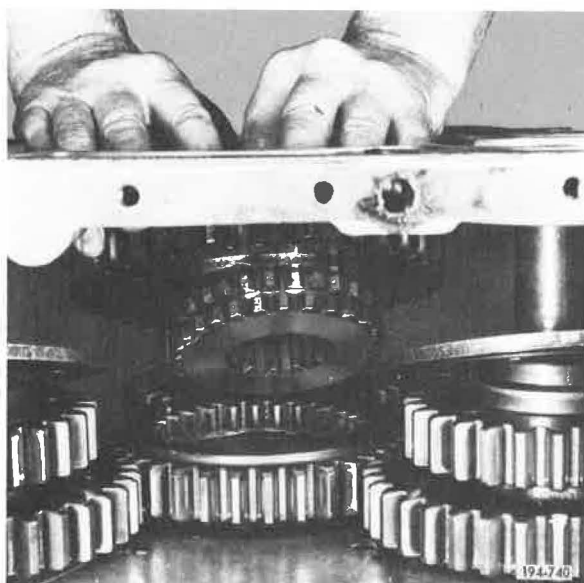

Figure 382. Installing Clutch and Lo-range Gear
18. Position front compound vertically. Install sliding clutch assembly, engaging Lo-range gear teeth with the teeth of the three countershaft gears. See Figure 382.